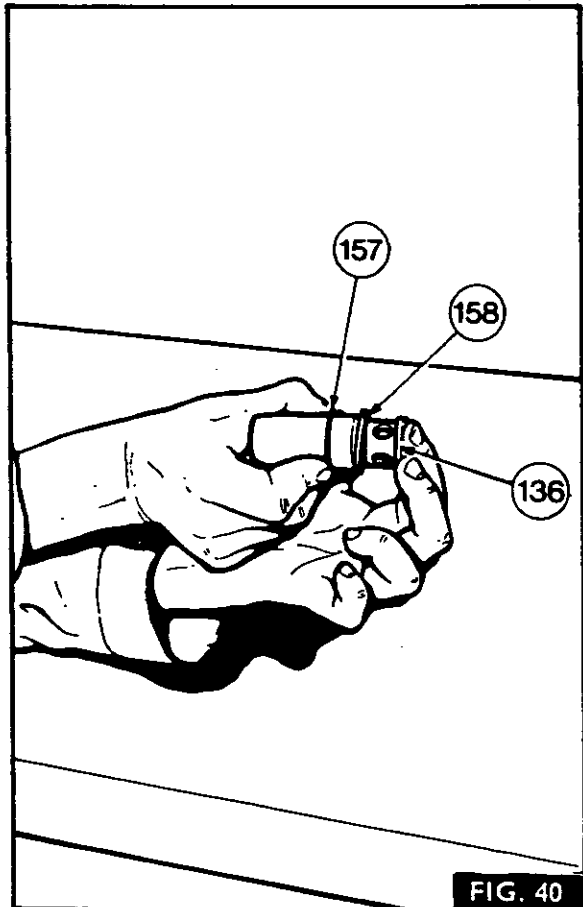

FIG. 40
6. Repeat items 2 to 5 for the other three valves.
7. Fig. 40. Using MF 353, fit a new back-up washer (158) and a new 'O' ring (157) to the control valve body (136), as shown.